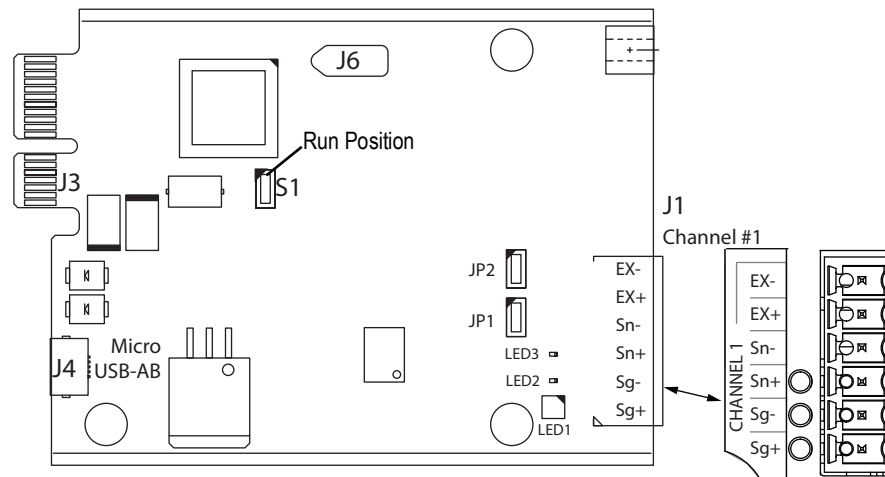

Figure 2. Single-Channel A/D Card
4. Ensure S1 switch on the card is in the *Run* position (Figure 2).
9. Wire the load cell cable from the scale to the connector (from the parts kit) for J1 as shown in Figure 2 and Table 3.